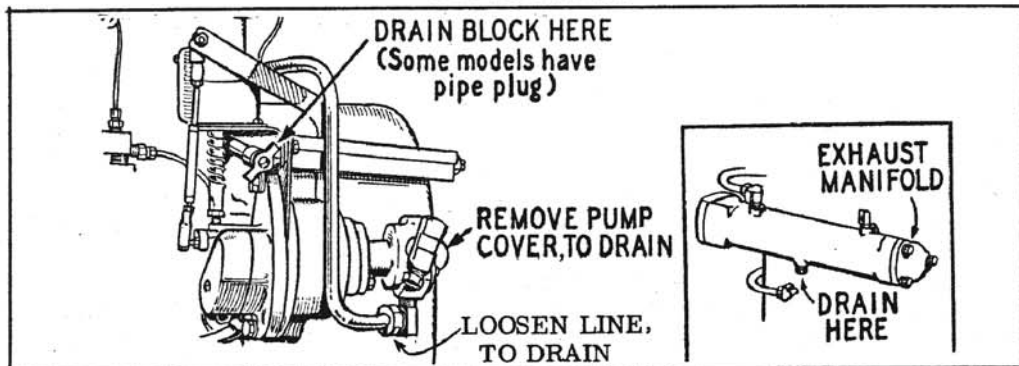

Fig. 13 Cooling System Drain Points
2. Drain the oil from the oil base while still warm. Attach a warning to refill before operation. Drain water if it will freeze, figures 13, 14.
5. If freezing temperature occurs and engine is not protected with antifreeze, during stopped periods drain the block, pump, manifold, and muffler. Attach warning tag. See figure 13.